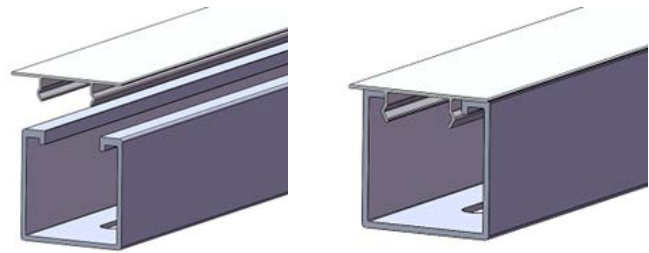

Figure 19
5.4.6 Align and click MT-rail cable tray cover in as showed in Figure 19.